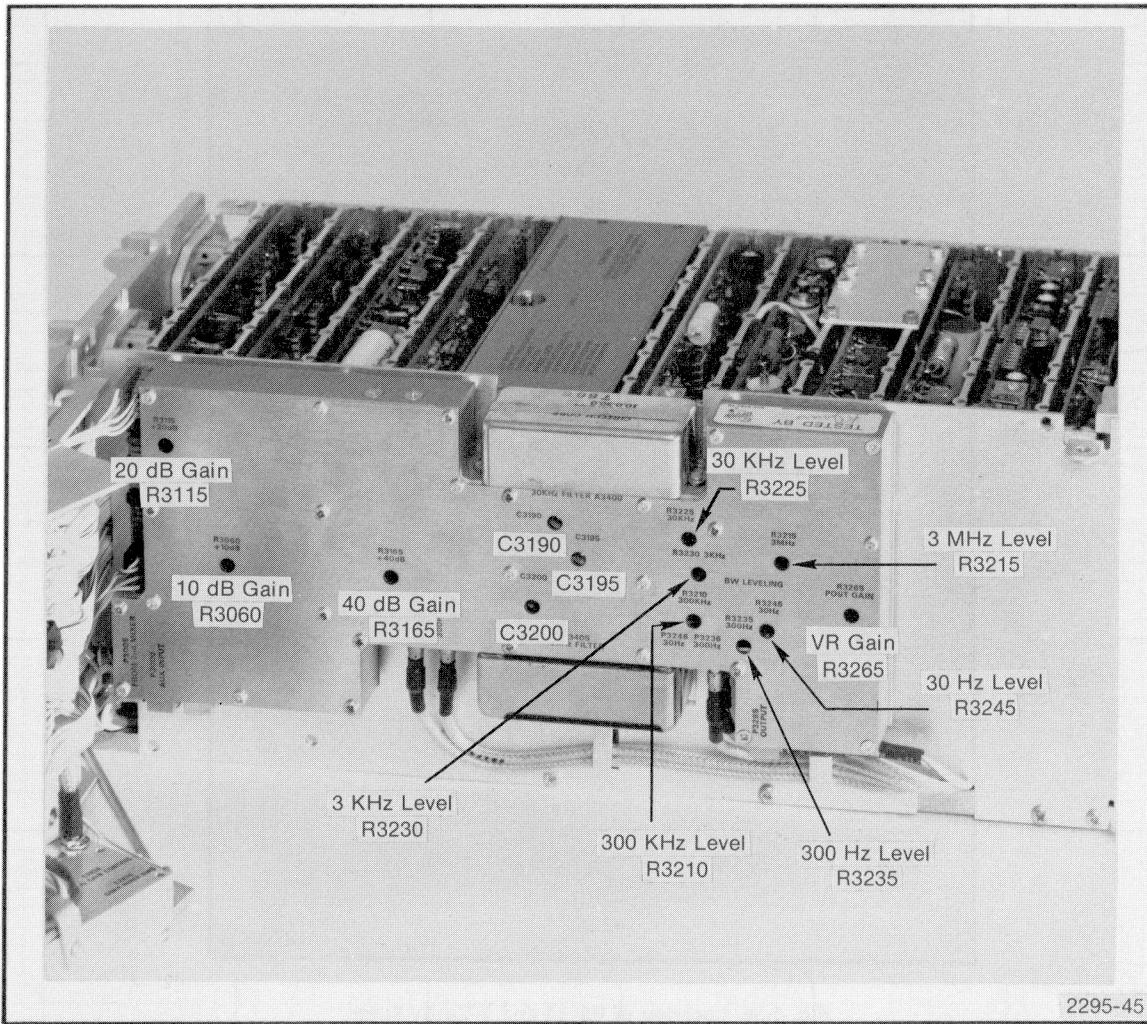
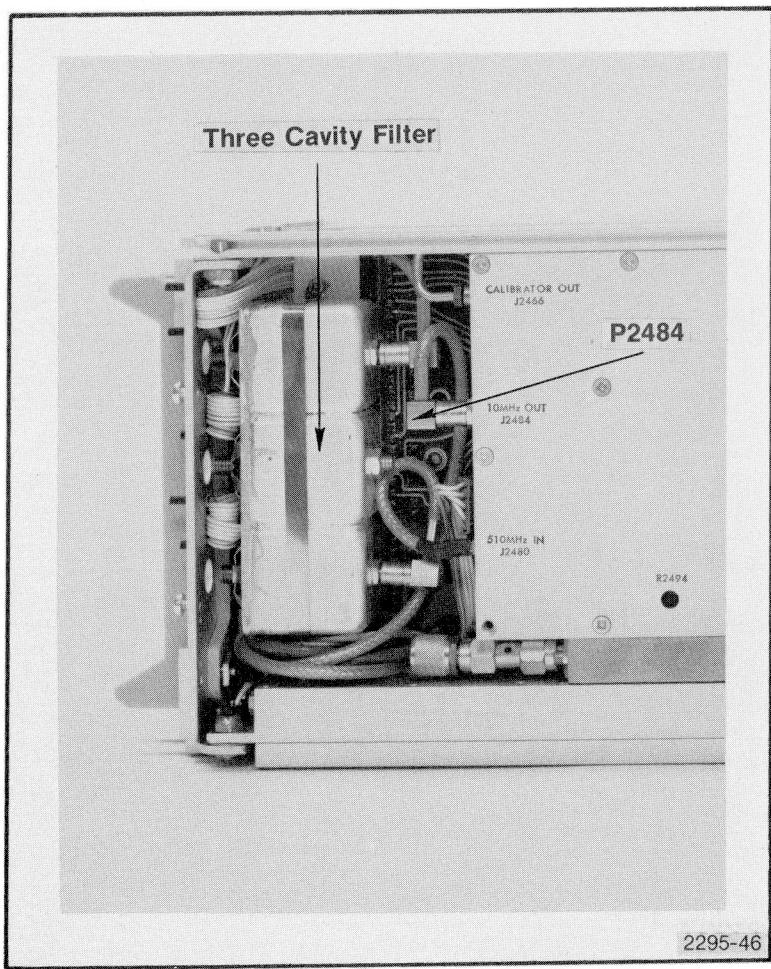

Fig. 4-37. Location of Connectors and Adjustments used When Calibrating the VR Circuits.
Fig. 4-38. Location of P2484 and 3-Cavity Filter.
d. Set the 30 Hz Level, R3245 (Fig. 4-37), about 10° from the full clockwise position and set R3235, 300 Hz Gain, to mid-range.
e. Adjust the frequency of the signal generator for maximum indication on the power meter, then adjust VR Gain R3265 (see Fig. 4-37) for 0 dBm reading on the power meter.
h. Disconnect P2484 (10 MHz Output on the 2nd Mixer assembly, see Fig. 4-38), then apply 10 MHz, -30 dBm signal from the signal generator through a 10 dB step attenuator and bnc-to-Sealestro adapter, to P2484.
j. Adjust the generator output gain for a display amplitude of seven (7) divisions. This will be the VR reference level for the other bandwidth selections.
k. Switch the RESOLUTION BANDWIDTH to 300 Hz and adjust the filter output gain, with 300 Hz Level R3235, (see Fig. 4-37), so the amplitude of the display equals the reference level established in part j.
l. Adjust the output of the remaining resolution bandwidth filters to the reference level with the following level adjustments (see Fig. 4-37):
- n. Adjust 10 dB Gain R3060 (see Fig. 4-37) for a calibrated 10 dB of gain increase.
- p. Adjust 20 dB Gain R3115 (see Fig. 4-37) for a calibrated 20 dB of gain increase.
- r. Adjust 40 dB Gain R3165 (see Fig. 4-37) for a gain increase of 80 dB.